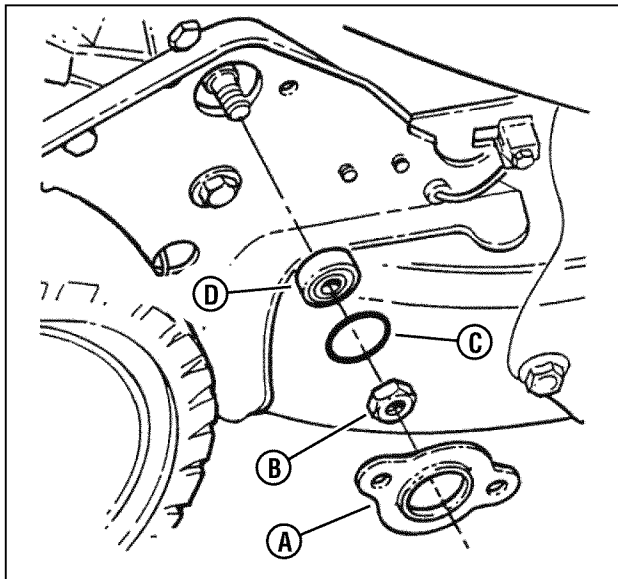

Figure 33: Replacing the hex shaft bearing
2. Remove the 3/8" hex lock nut (**B, Figure 33**), located on the outside of the right wheel bracket.